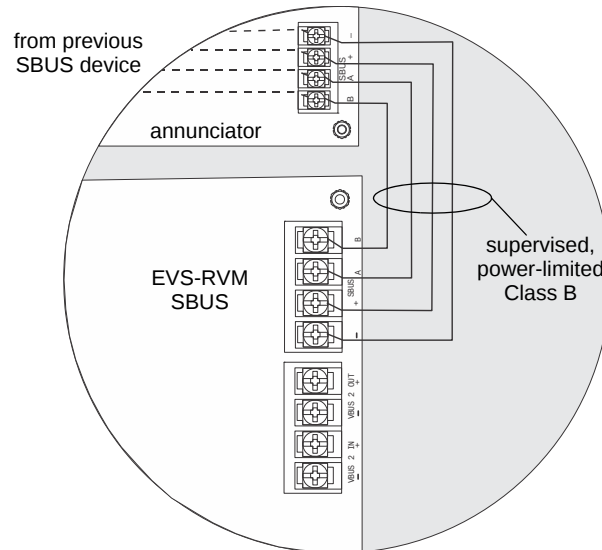

Figure 4.54 SBUS wiring for EVS-RVM
2. Connect the SBUS to the annunciator and EVS-RVM. See Figure 4.54.
- 2. Disconnect the SBUS connections from the SBUS terminals on the EVS-RVM. Refer to Figure 4.54.